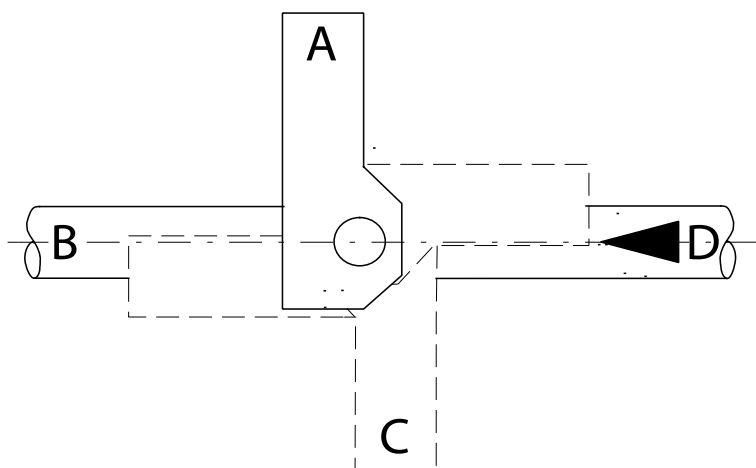

Fig.5-6 Actuator mounting position
5. Place the actuator with the bracket in the required (position A, B, C or D) (→ Fig.5-6) on the shaft of the valve body and fix the unit with the aid of the bolts (→ Fig.5-5/6).